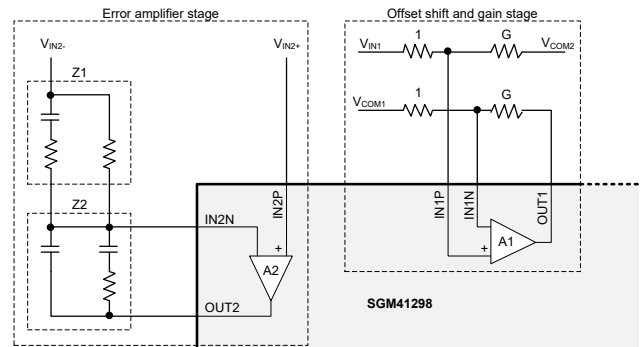

Figure 11. Using SGM41298 Amplifiers
Figure 11 shows an applicable circuit in which A2 is used to make an error amplifier with external compensation network Z1 and Z2, and A1 is used to make a gain (G) stage with level shifting from V_{COM1} at input side to V_{COM2} at output (OUT1). The temperature setting can be fed into either V_{IN2+} or V_{IN2-} and the temperature sensor (for example NTC) can replace one of the four resistors.